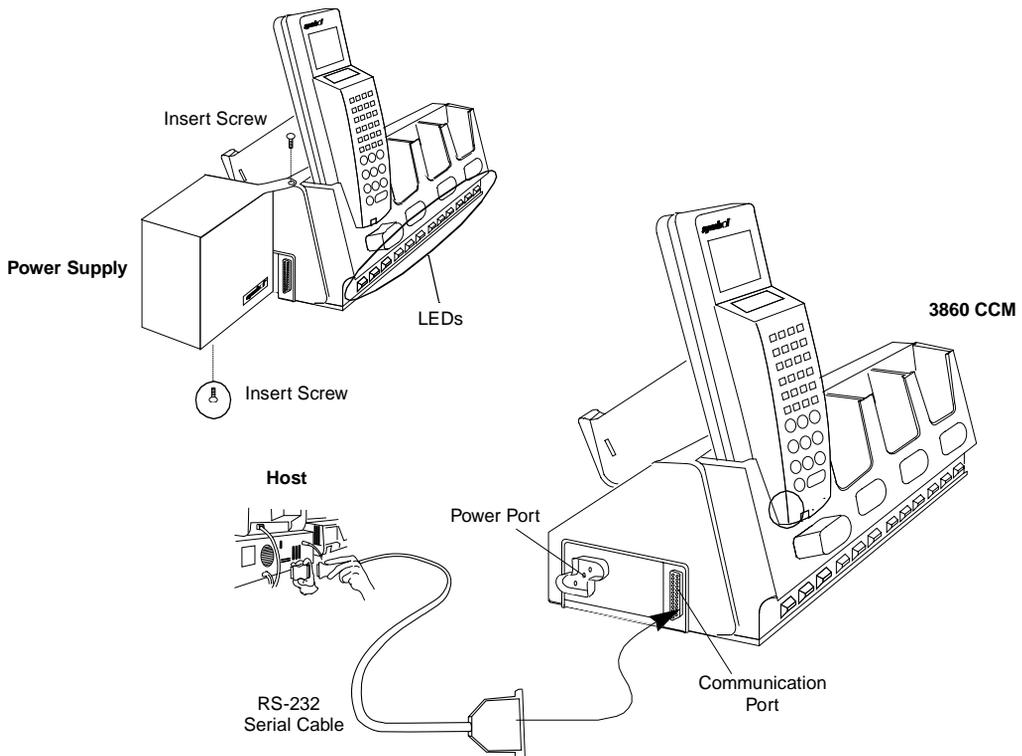

Figure 2-7. Connecting the 3860 CCM for Charging and Communications
- a. Attach the power supply to the left side of the CCM as shown in Figure 2-7 using two cross-head screws.